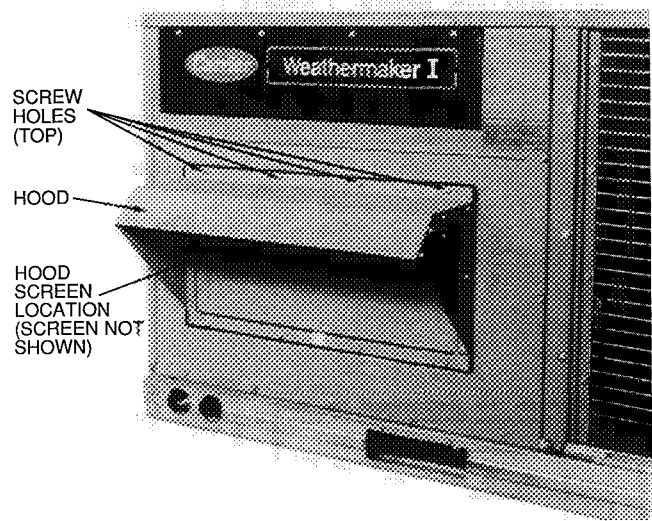
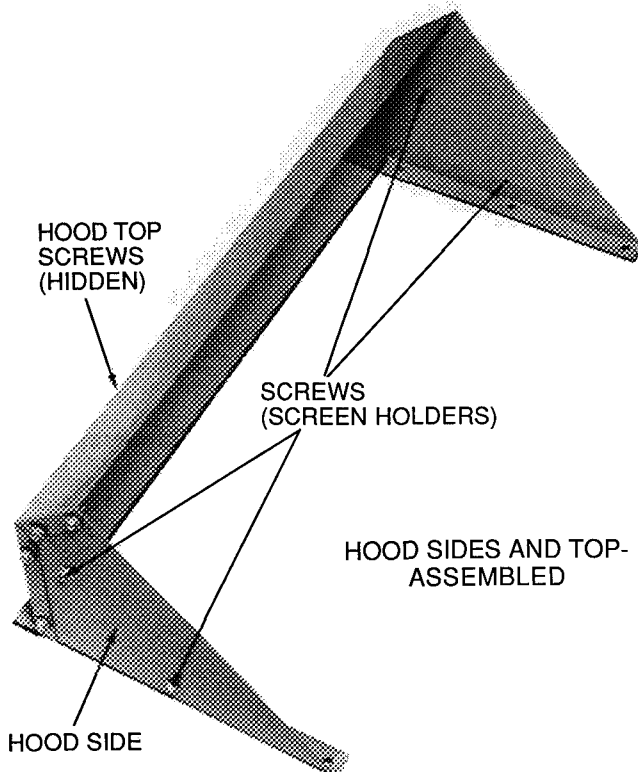

Fig. 14 — Outdoor-Air Damper with Hood Attached
Fig. 13 — Outdoor-Air Hood Details
5. Place hood on front of evaporator coil access panel. See Fig. 13 for hood details. Secure top of hood with the 4 screws removed in Step 3. See Fig. 14.
7. Align screw holes on hood with screw holes on side of manual outdoor-air damper. See Fig. 13 and 14. Secure hood with 6 screws from Step 6.
9. Remove and save screws currently on sides of hood. Insert screen. Secure screen to hood using the screws. See Fig. 14.
6. Place hood on front of evaporator coil access panel. See Fig. 13 for hood details. Secure top of hood with the 4 screws removed in Step 3. See Fig. 14.
8. Align screw holes on hood with screw holes on side of two-position damper. See Fig. 13 and 14. Secure hood with 6 screws from Step 7.
10. Remove and save 4 screws currently on sides of hood. Insert screen. Secure screen to hood using the 4 screws. See Fig. 14.